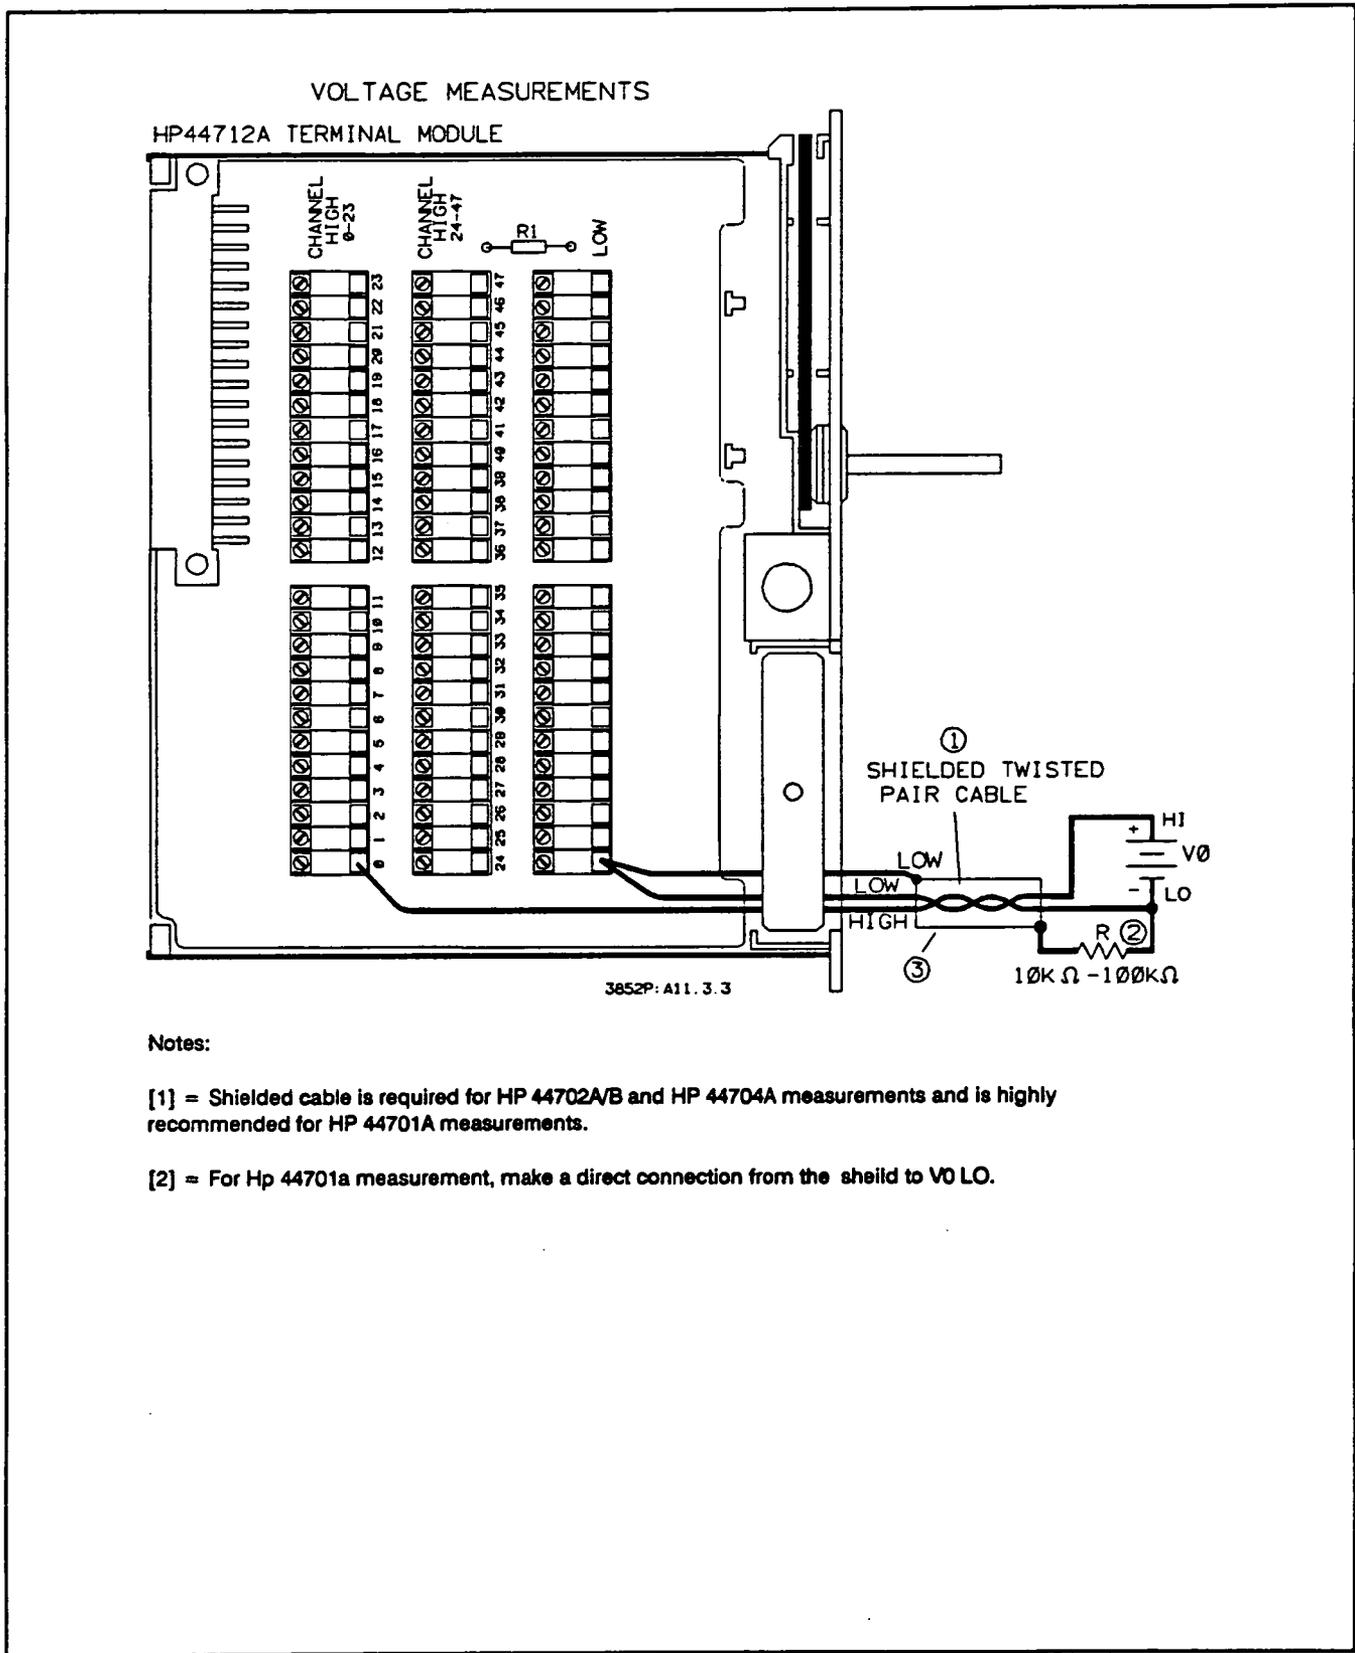

Figure 3-3. HP 44712A Voltage Connections
The HP 44712A can switch signals for up to 48 single-ended DC or AC voltage measurements. Figure 3-3 shows typical voltage measurement connections to channel 0.
Since shielded, twisted-pair Cable reduces measurement noise, shielded cable is required for measurements with an HP 44702A/B and HP 44704A voltmeter and is highly recommended for measurements with the HP 44701A voltmeter. For the HP 44702A/B or HP 44704A voltmeter connect an external resistor (R) between V0 LO and the shield, as shown in Figure 3-3.